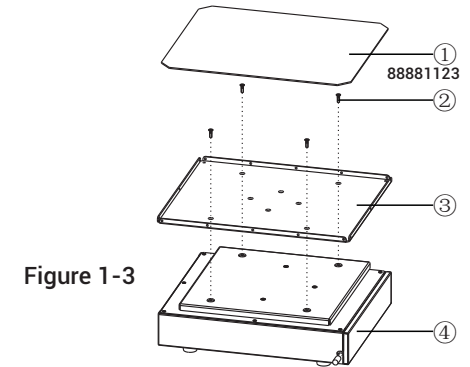

Figure 1-3
1. Place the instrument on a level and firm surface, it must be capable of supporting the weight and load of the instrument and the impact force generated by the motion. Prepare related parts (see Figure 1-3).